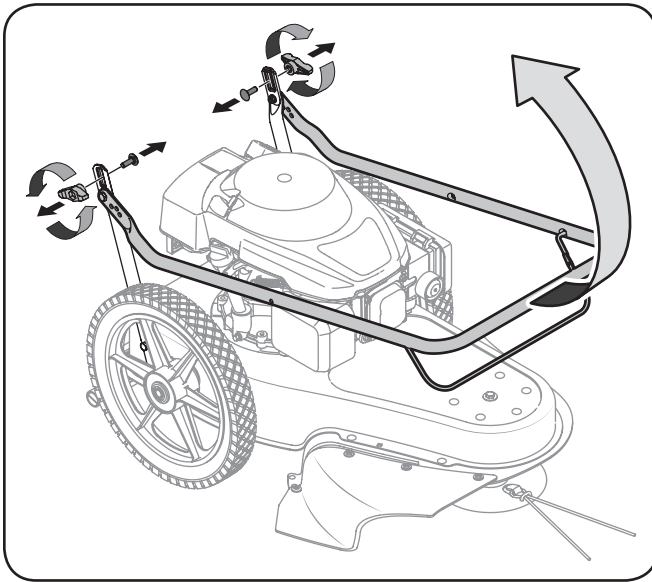

Figure 3-1
1. Remove the wing knob and carriage bolt from the left lower handle and the right lower handle. See Figure 3-1.
2. Pivot the upper handle into the operating position. See Figure 3-1.